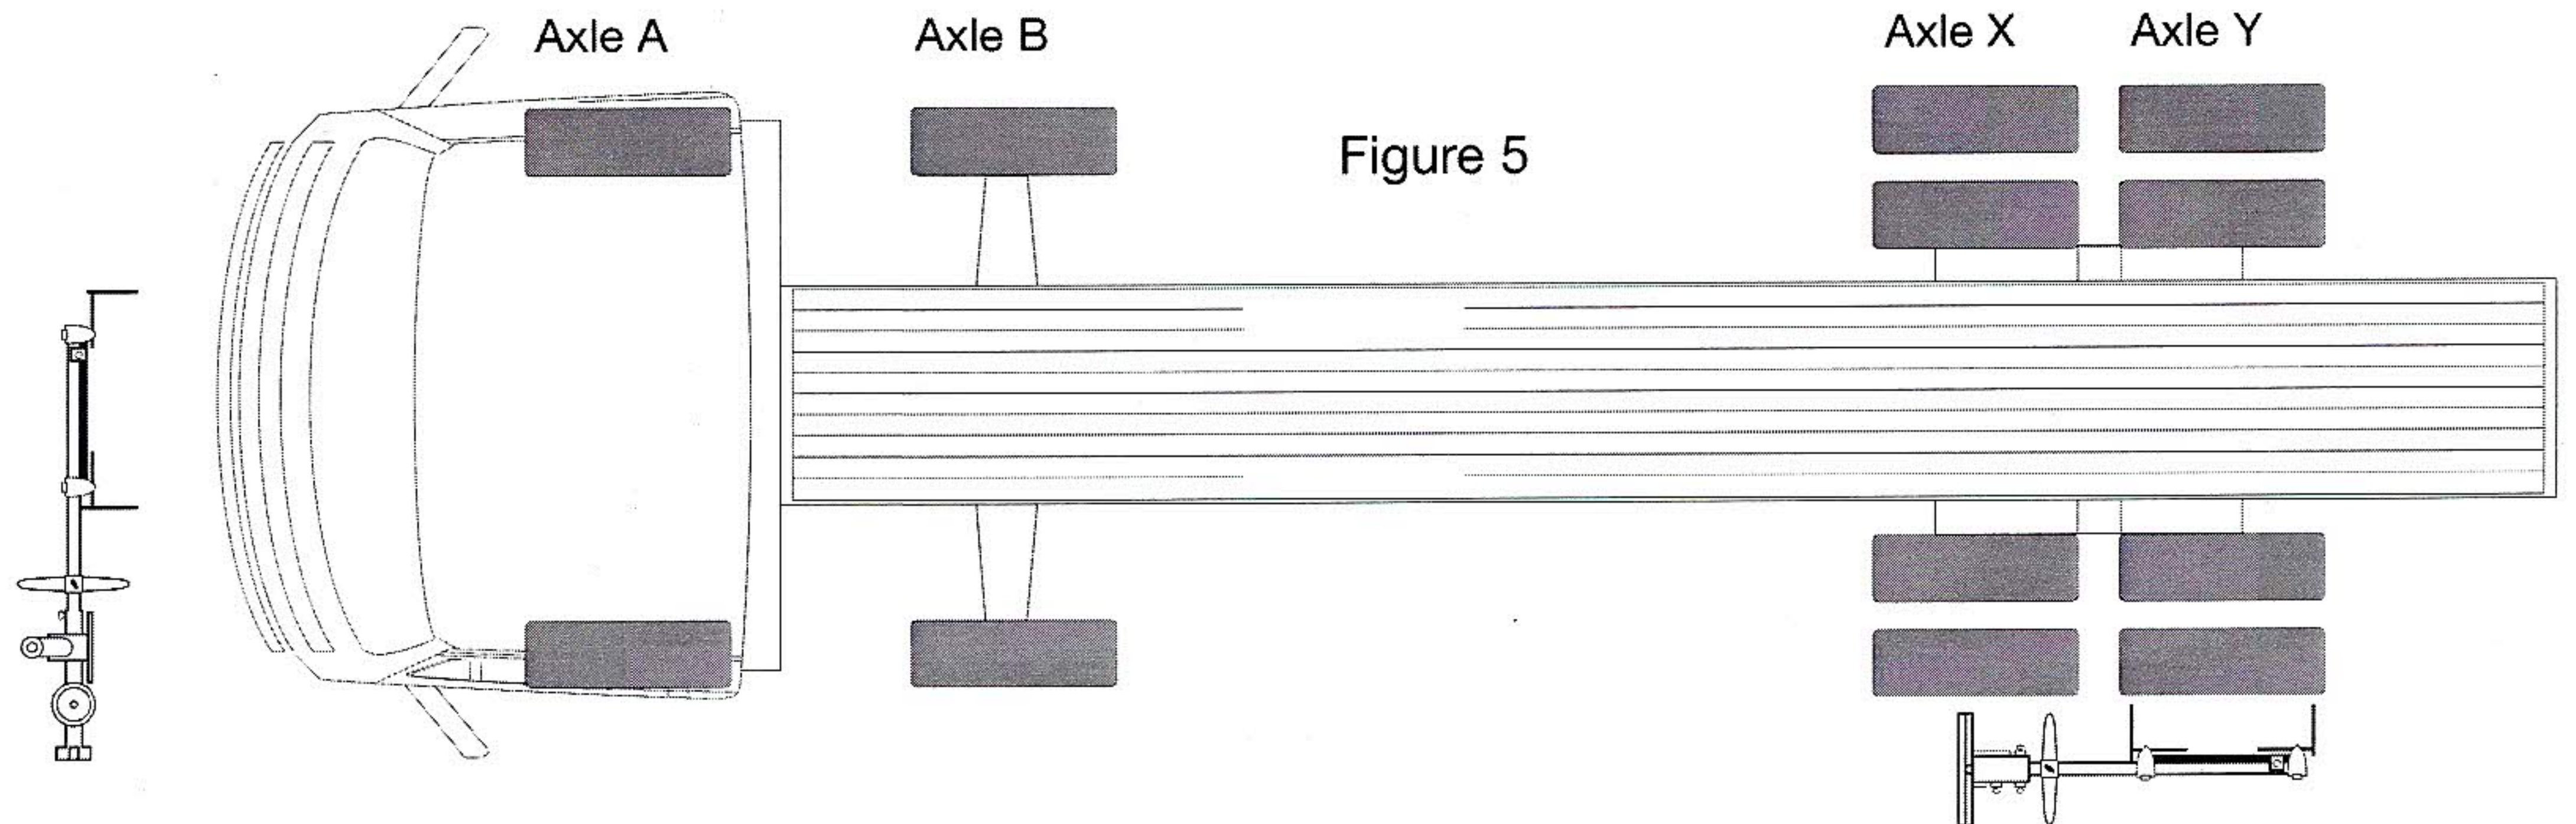

Figure 5
- Check alignment of the two pairs of front axle wheels (A and B in Figure 5) in the same way as you would for cars. Adjust if required to the manufacturer's recommendations or set to parallel.
- Replace normal mirror unit with larger PPL 42 mirror unit. Place this against last axle (Y in Figure 5) with mirror towards the front of the vehicle.
- Stand the laser unit on a level floor approximately 1 metre ahead of the front bumper with the target plate facing the mirror (see Figure 5). With pointer at zero, move the laser unit until the laser beam is visible on the centre line of the target plate as in Figure 2.
- Without moving the laser unit, transfer mirror unit to next axle (X in Figure 5) and check reading. This should be identical to axle Y. If not, the rear axles are not parallel and require adjustment.
- If the inter-axle adjuster needs adjustment, recheck from item 2 onwards.